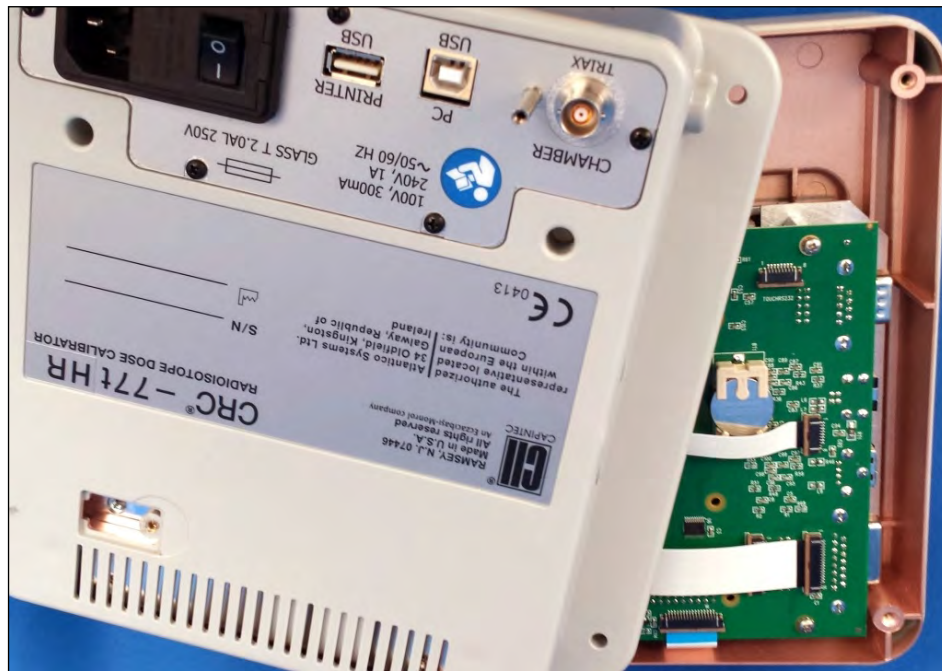

Figure 15-5
- c. Once the 4 screws are removed, gently lift up the Back Case approximately 1/2" above the Front Case and carefully move the Back Case to the left approximately 3" to expose the battery as shown in Figure 15-5.